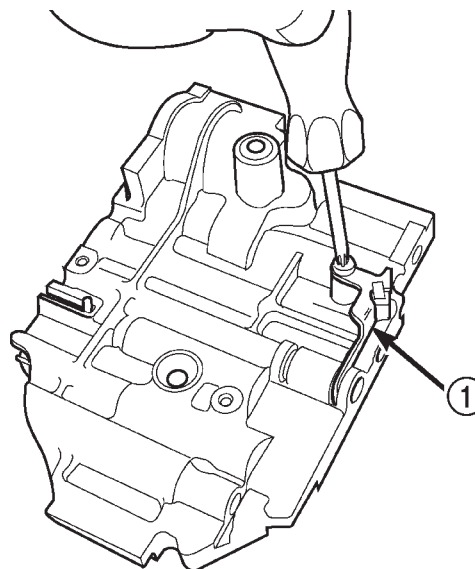

Fig. 141 Install Vent Reservoir Check Valve Retainer
- (5) Install the vent reservoir check valve retainer (Fig. 141).